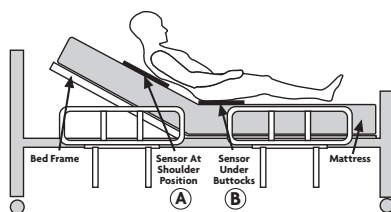
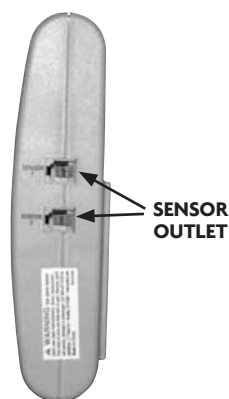

Fig. 29
Fig. 30
3. Choose a position for sensor pad (fig. 29):
- (A) Centered at patient's shoulder blades; or
- (B) Centered under patient's buttocks.
10. Insert RJ11 plug into the jack labeled "sensor" on right side of alarm (fig. 30).
For bed use, sensor pad should be placed at shoulder blade level so alarm will activate if patient sits up, tries to climb over side rails, or scoots to bottom of bed. See fig. 29, page 24.